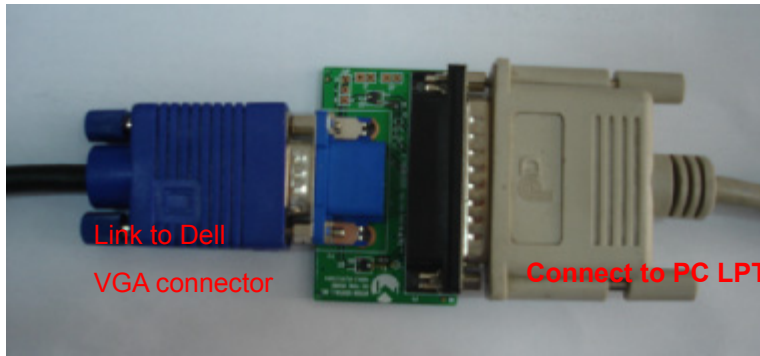

Fig.1
- (1). An i486 (or above) personal computer or computer or compatible.
- (2). Microsoft operation system Window 95/98/2000/XP.
- (3). ISP Tool: ISP board/printer cable/VGA cable as shown in Fig.1